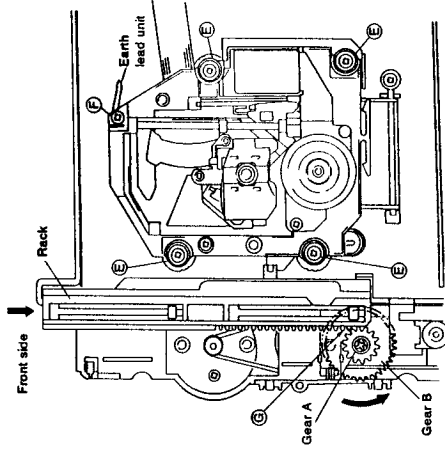

Fig. 2-3
- 2 Remove the four screws ① and one screw ② with the servo mechanism assembly lowered (to the tray-open position) (Fig. 2-3).
- 3 To move the rack by hand, gear A and the gear section of the rack must be engaged at section ③ (see Fig. 2-3). Otherwise, the rack may not move. In this case, move gear B with a ④ screwdriver from the side and fit gear B and the gear section of the rack at the engaging section ⑤.